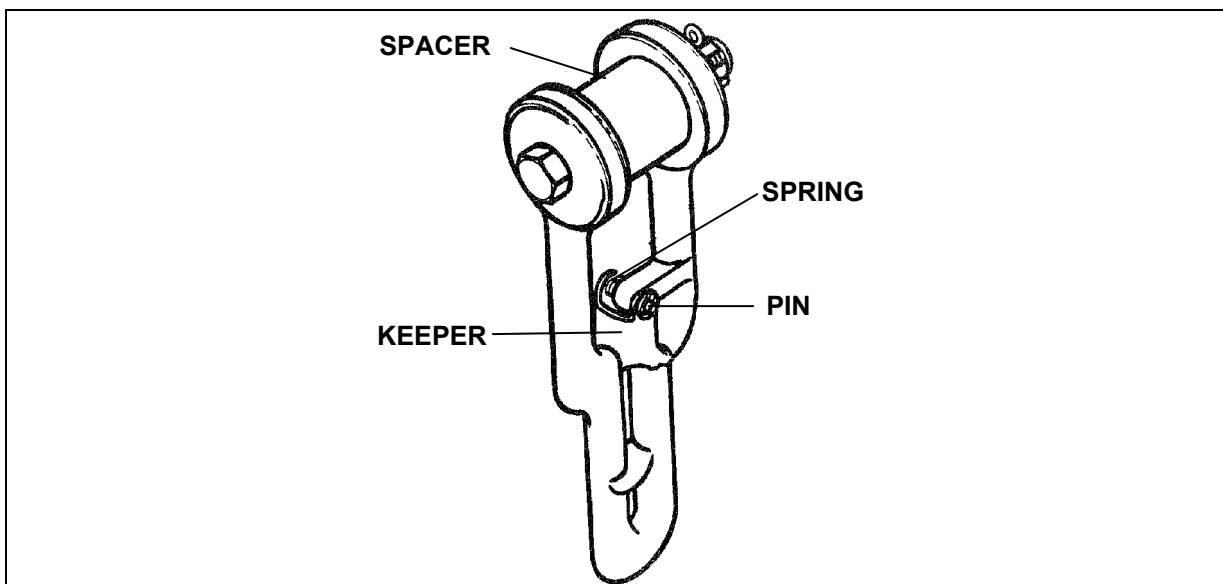

Figure 6-33. Grab Link
- **Grab Link.** Each sling leg has a grab link (Figure 6-33) connected to the lower eye of the sling leg. The grab link attaches the sling leg to the chain section and permits varying the length of the chain. The grab link is attached to the lower eye of the sling leg with a bolt and spacer which are held in place by a castellated nut and cotter pin. The bottom of the grab link has an eye through which a coupling link is inserted to attach the chain leg. The length of the chain is varied by passing the chain through the lifting provision, back through the center opening of the grab link, and inserting the chain link that matches the desired leg length into the slot below the keeper. The keeper is not a load bearing component, but only serves to keep the chain in the grab link under a no-load condition. The chain leg is held in position by the locking action of the chain link in the slot under the grab link keeper.